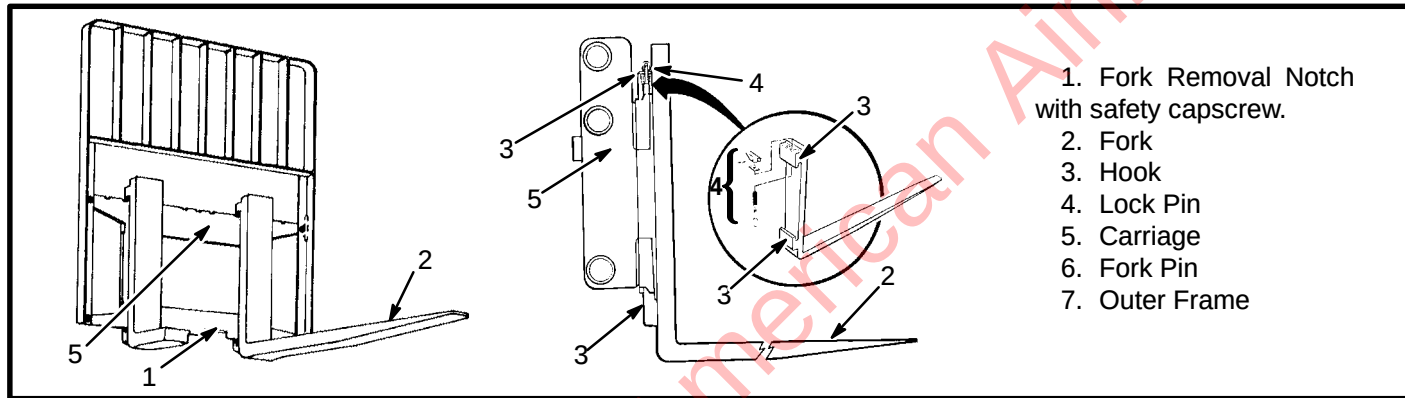

FIGURE 10. HOOK TYPE FORK
4. Inspect the forks for cracks and wear. Check that the fork tips are aligned within 3% of the length of the fork of each other [40 mm (1.5 in.) for a 1220 mm (48 in.) fork]. Some applications can require closer alignment. Check that the bottom of the fork is not worn (Item 4 in Figure 10).